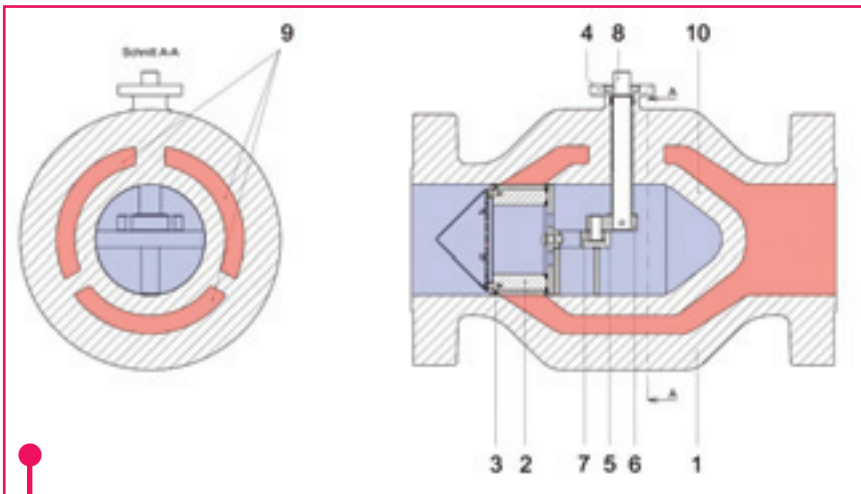

Fig. 3: Cross section of KLINGER axial flow valve in closed position
The stem (8) mounted within the housing transfers the rotational force applied by the handle or actuator to the crank (6). The stem is sealed to the outside by a stuffing box (4). The steering plate (7) then converts the rotational motion of the crank to a linear motion, which is transferred by the steering plate to the piston (2) [Fig. 3]. The piston now travels from the rest position out of the fixed torpedo body (10) (an integral part of the main housing) and starts to reduce the cross section of the flow channel. In the final position, the piston